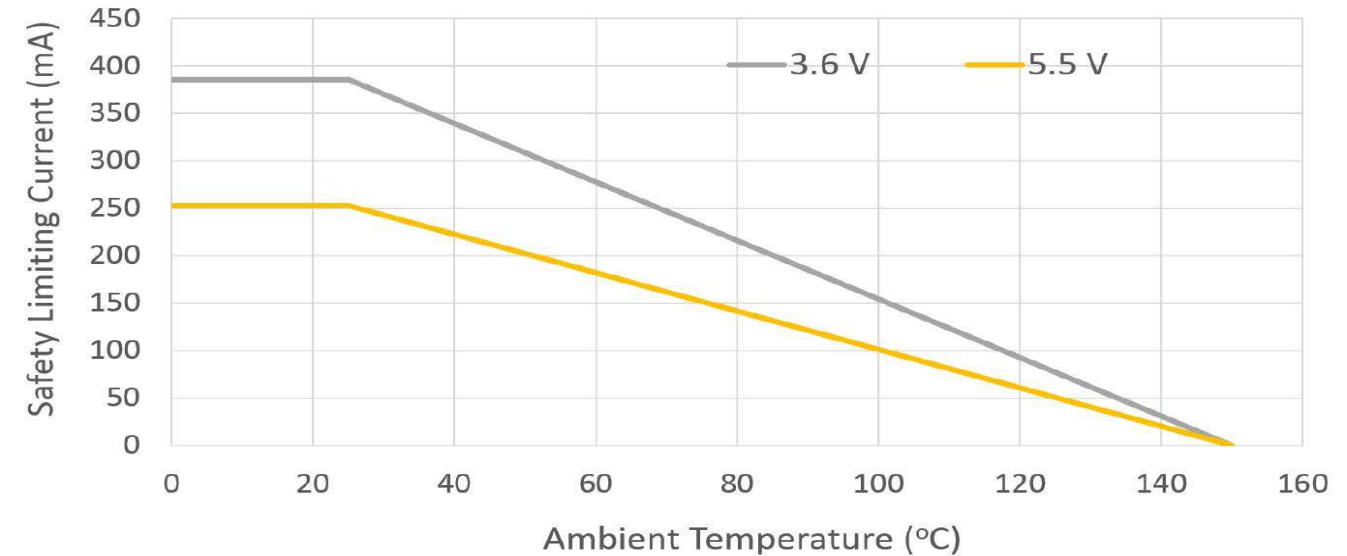
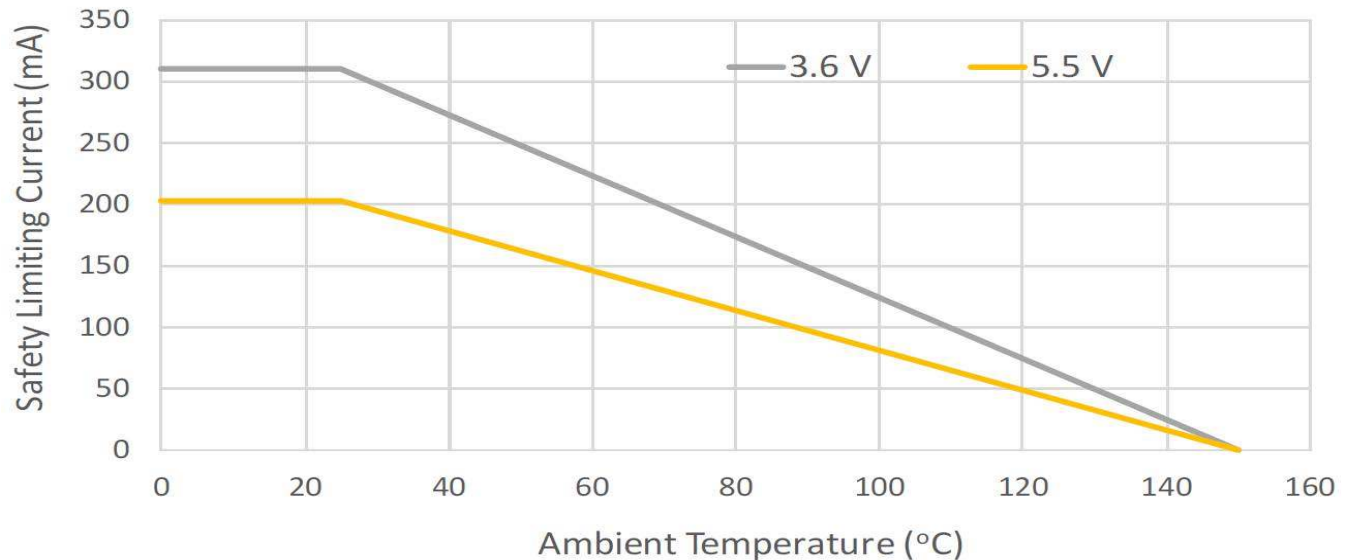

Figure 34. WB Stretched SOIC-8 Thermal Derating Curve (Dependence of Safety Limiting Current)
Figure 35. NB SOIC-8 Thermal Derating Curve (Dependence of Safety Limiting Current)
1. Maximum value allowed in the event of a failure. Refer to the derating curves Figure 34, "WB Stretched SOIC-8 Thermal Derating Curve (Dependence of Safety Limiting Current)," on page 16 and Figure 35, "NB SOIC-8 Thermal Derating Curve (Dependence of Safety Limiting Current)," on page 16.